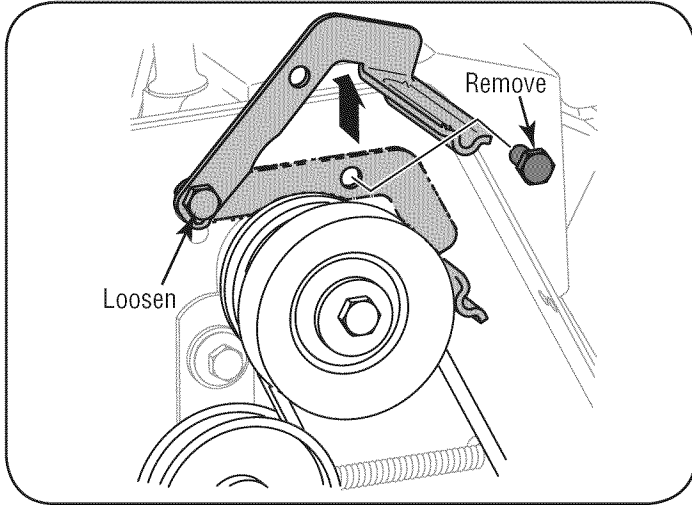

Figure 31
4. Loosen the bolt shown in Figure 31 securing the belt keeper bracket and remove the other bolt. Push the belt keeper and bracket up off the engine pulley.